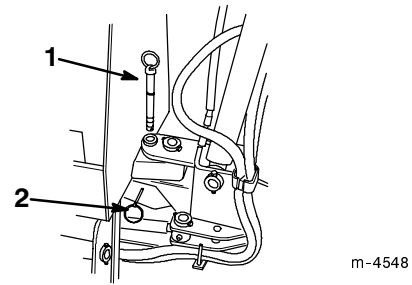
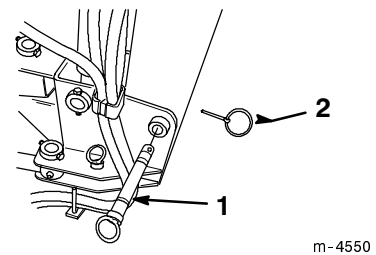
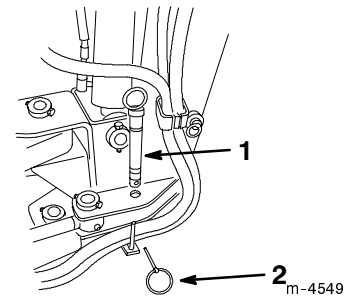

Figure 16
Figure 17
Figure 18
5. Remove the two pins locking the boom in place (Figs. 16 and 17) and place them in the storage positions (Fig. 18).
Note: One pin prevents the boom from swinging side to side (Fig. 16) and the other prevents the boom from moving up and down (Fig. 17).